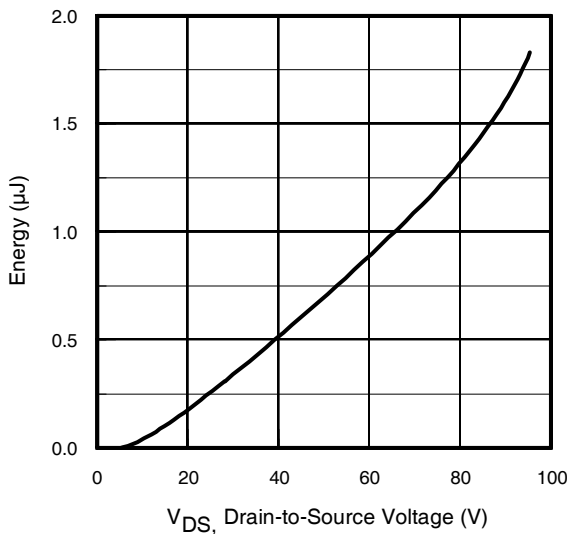

Fig 11. Typical C_{OSS} Stored Energy
| $C_{oss \text{ eff. (ER)}}$ | Effective Output Capacitance (Energy Related) | — | 420 | — | $V_{GS} = 0V, V_{DS} = 0V \text{ to } 80V$ ⑥, See Fig.11 | |